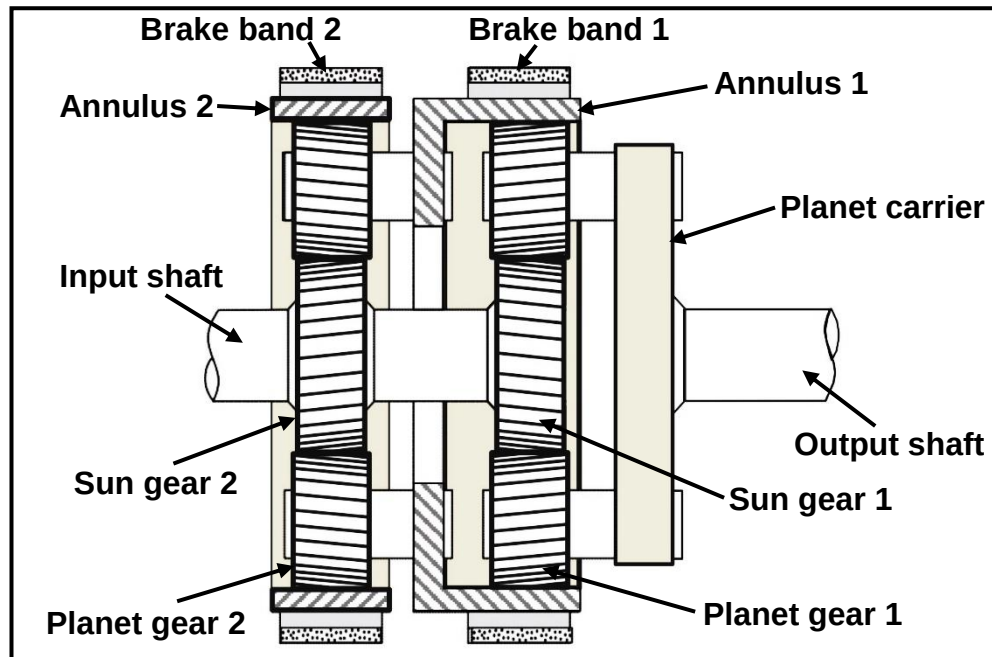

FIGURE 9.5
- 9.5 FIGURE 9.5 below shows the gear system of an automatic gearbox. Answer the questions that follow.
- 9.5.1 Identify the gear system in FIGURE 9.5 above. (1)
- 9.5.2 Explain, in the CORRECT sequence, how reverse gear is obtained in this gear system. Use the labels in FIGURE 9.5 to assist you in your explanation. (5)